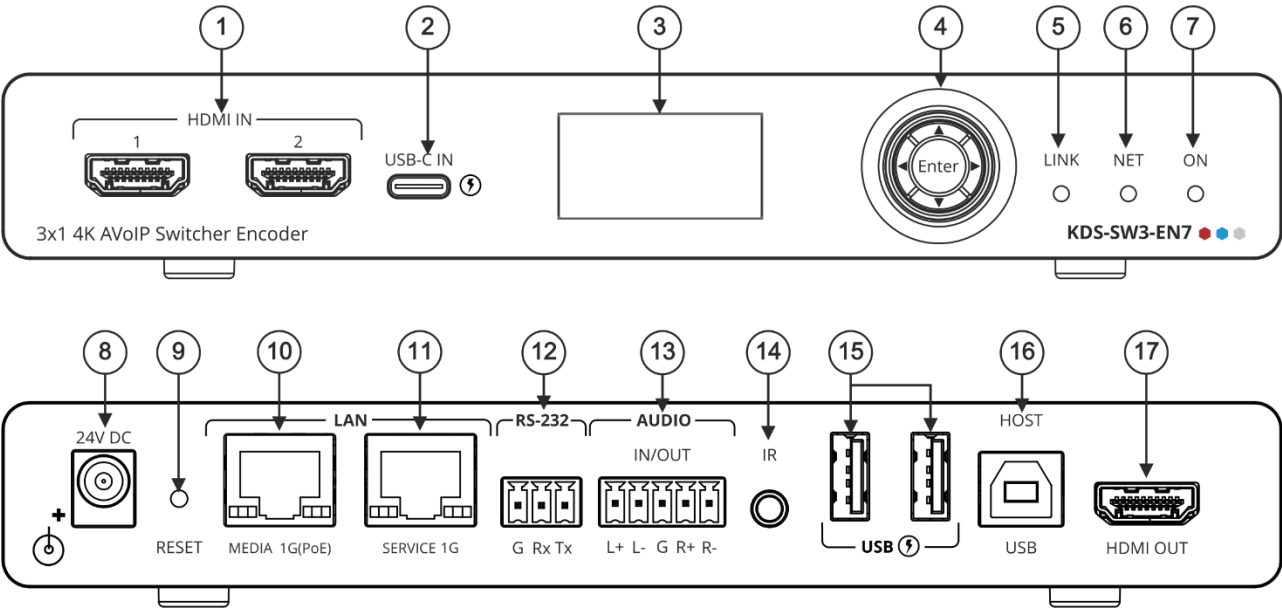

Figure 1: KDS-SW3-EN7 4K AVoIP Encoder
1. Connect an HDMI source (for example, a server or a media player) to the HDMI IN 1 connector on the **KDS-SW3-EN7** (connector ① in Figure 1).
2. Connect a video source (for example, a laptop) to the USB IN connector on the **KDS-SW3-EN7** (connector ② in Figure 1).
3. Connect a balanced stereo audio source (for example, the server audio connector) to the AUDIO IN/OUT 5-pin terminal block connector on the **KDS-SW3-EN7** (connector ⑬ in Figure 1).
4. Connect the LAN MEDIA 1G(PoE) RJ-45 port (⑨ in Figure 1) on the **KDS-SW3-EN7** to the LAN MEDIA 1G(PoE) RJ-45 port (⑳ in Figure 1) on the Kramer **KDS-DEC7** decoder via a LAN switch.
- On **KDS-SW3-EN7**, connect the two USB Type A ports ((15) in Figure 1) to a (for example) webcam and a speakerphone.
- On **KDS-SW3-EN7**, connect the IR 3.5mm mini jack ((13) in Figure 1) to a laptop/controller.
- On **KDS-SW3-EN7**, connect the RS-232 port ((11) in Figure 1) to a laptop/controller.
You can connect to **KDS-SW3-EN7** via an RS-232 connection (12 in Figure 1) using, for example, a PC.